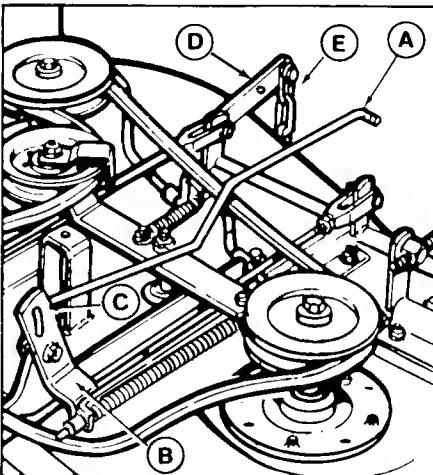

Figure 1. PTO Rod Connection - 36"
If there are two holes in the mower lift bracket (D, figure 1), make sure the chain (E) is connected to the rear hole.
2. The PTO rod must be attached to mower PTO arm before sliding mower under tractor. Insert the end of the PTO rod from the right-hand side and work the "S" bend around until rod (A, figure 1) appears as shown.